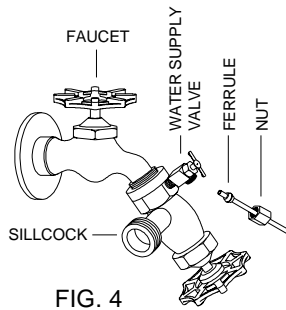

FIG. 4
- **Connect water supply line.** Install a sillcock and water valve on faucet as shown by figure 4. Place the nut and ferrule on the tubing and tighten the nut until water tight.